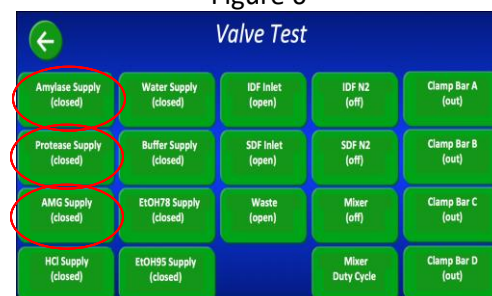

Figure 7
- From the "Valve Test" screen, open the "Amylase Supply", "Protease Supply" and "AMG Supply." See figure 7. This will open the valves allowing access to the Enzyme Valve for replacement of the tubes.